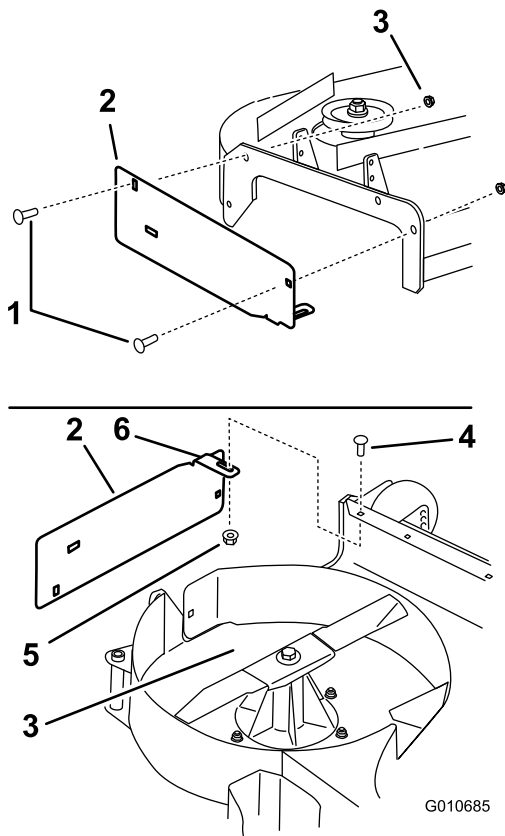

Figure 8
1. Install the discharge plate to the outside of the mounting bracket with 2 carriage bolts (3/8 x 1-1/4 inches) and 2 flange nuts (small flange) (3/8 inch) (Figure 8).
2. Install the tab to the inside of the mower deck with 1 carriage bolt (5/16 x 7/8 inch) and 1 flange nut (5/16 inch) (small flange) (Figure 8).